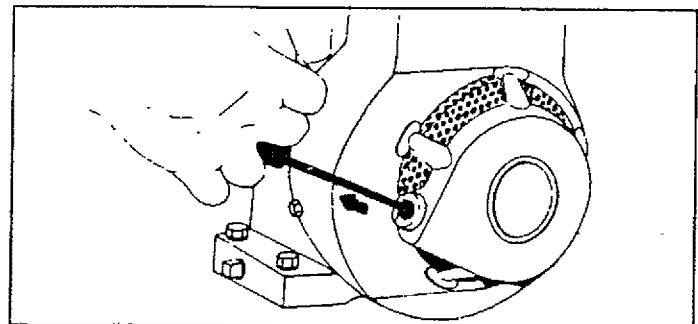

FIG. 7
- Crank engine. Grasp the starter grip (Fig. 7) and pull slowly until you feel some resistance. Let rope return slowly. Then pull cord out with rapid full arm stroke. Let rope return slowly. Do not let rope "snap back" against starter. Repeat until engine starts.
- Push Stop Switch (Fig. 7) against spark plug and hold until engine has come to complete stop.